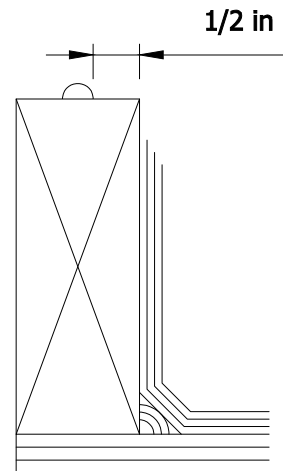

FIGURE 3.0
- Before setting the skylight on the curb run a minimal 3/8" sealant bead around the entire perimeter of the curb. It's advisable to keep the sealant about 1/2" away from both the inside and outside of the curb (See Figure 3.0). If the skylight has a factory installed curb mount seal tape on the underside of the frame (the surface that's mates with the top face of the curb) a sealant bead is unnecessary. Most curb seal tapes are closed cell urethanes measuring 1 1/2" x 1/4".